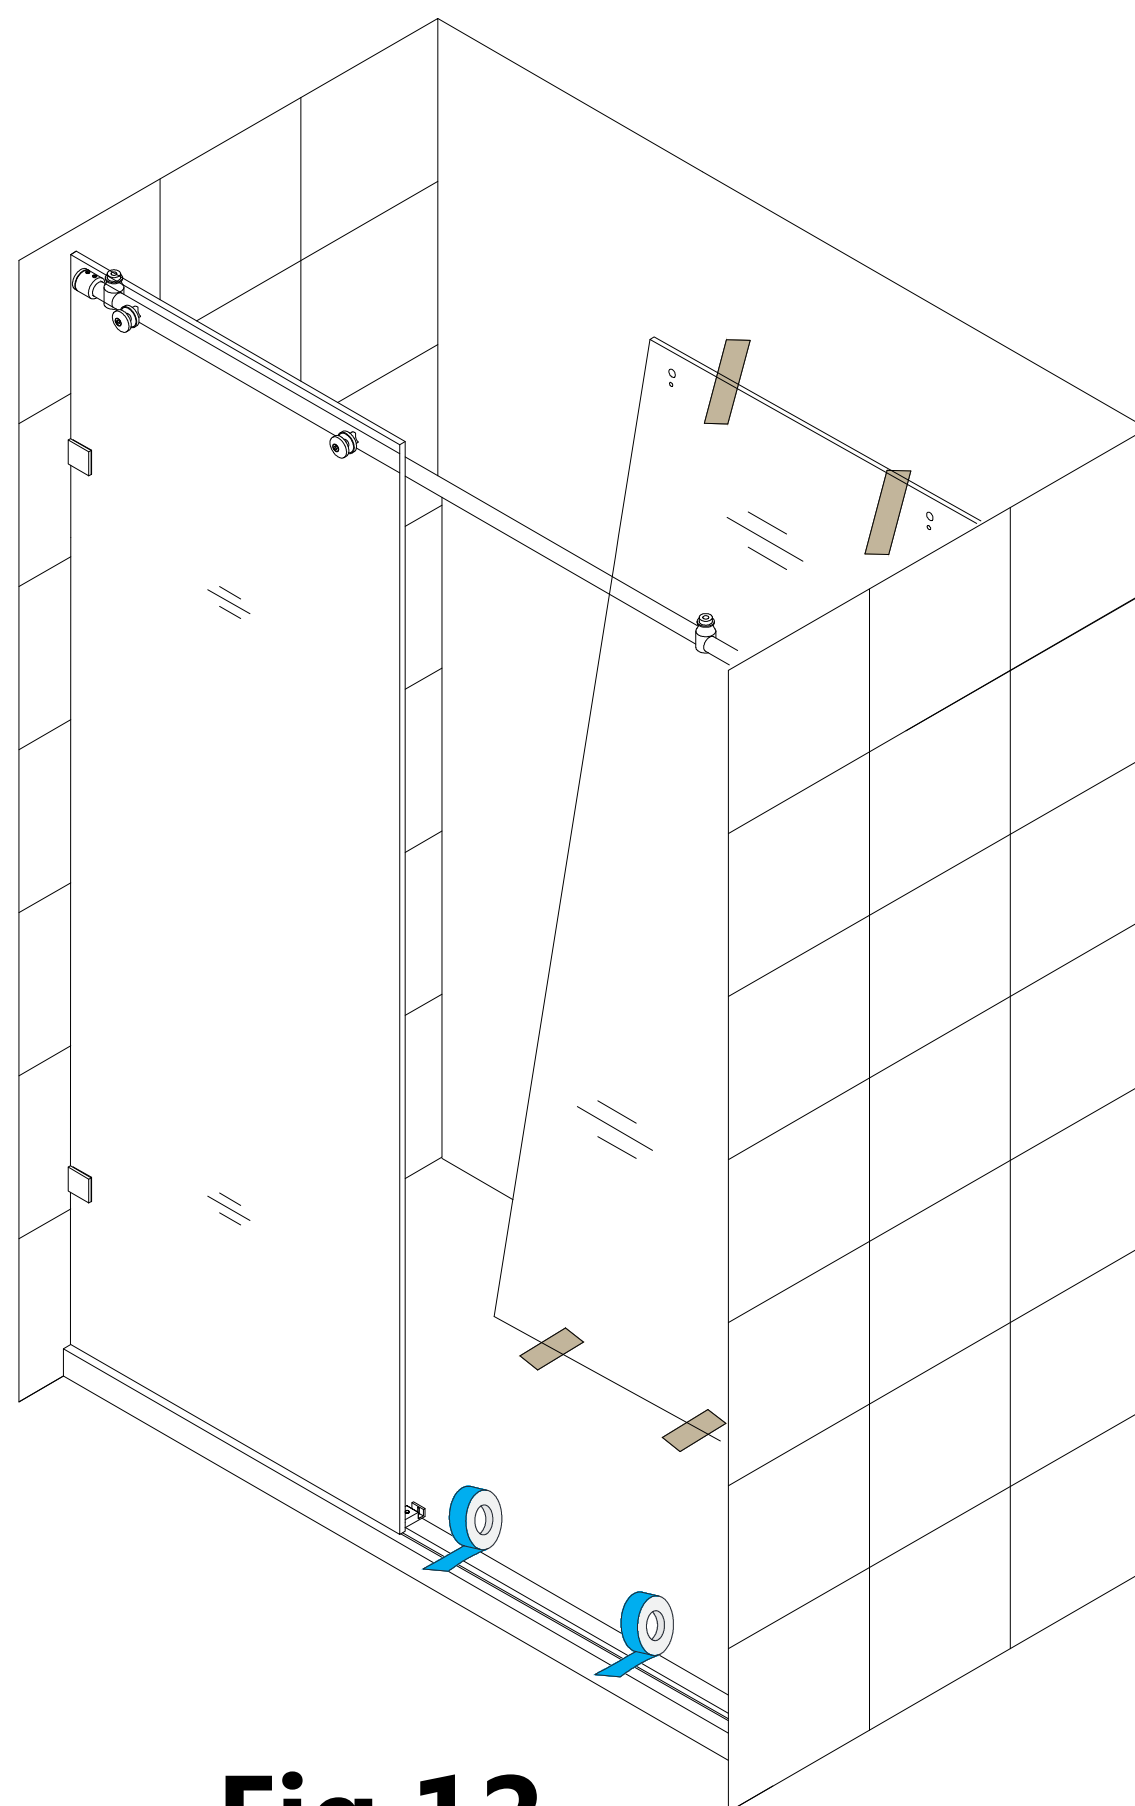

Fig 12
12. Secure the **Anti-Splash Guard (B)** to the threshold with several pieces of painter's tape to hold it in position tight to the threshold until the silicone fully cures. **(Fig 12)**